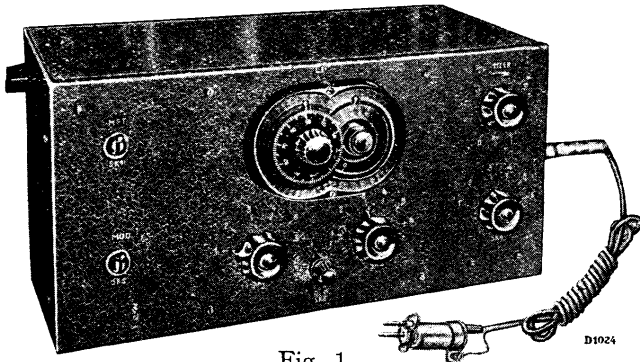

Fig. 1.
1. A service oscillator, preferably type 4028. C. or G.M. 2880 (fig. 1), prices and particulars can be obtained from Service Dept.